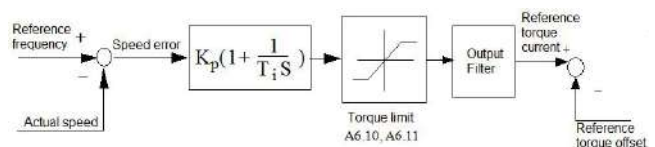

Fig.6-13 Speed regulator
1.The structure of speed regulator (ASR) is shown in Fig.6-13.In the figure, K_P is proportional gain P. T_i is integral time I.